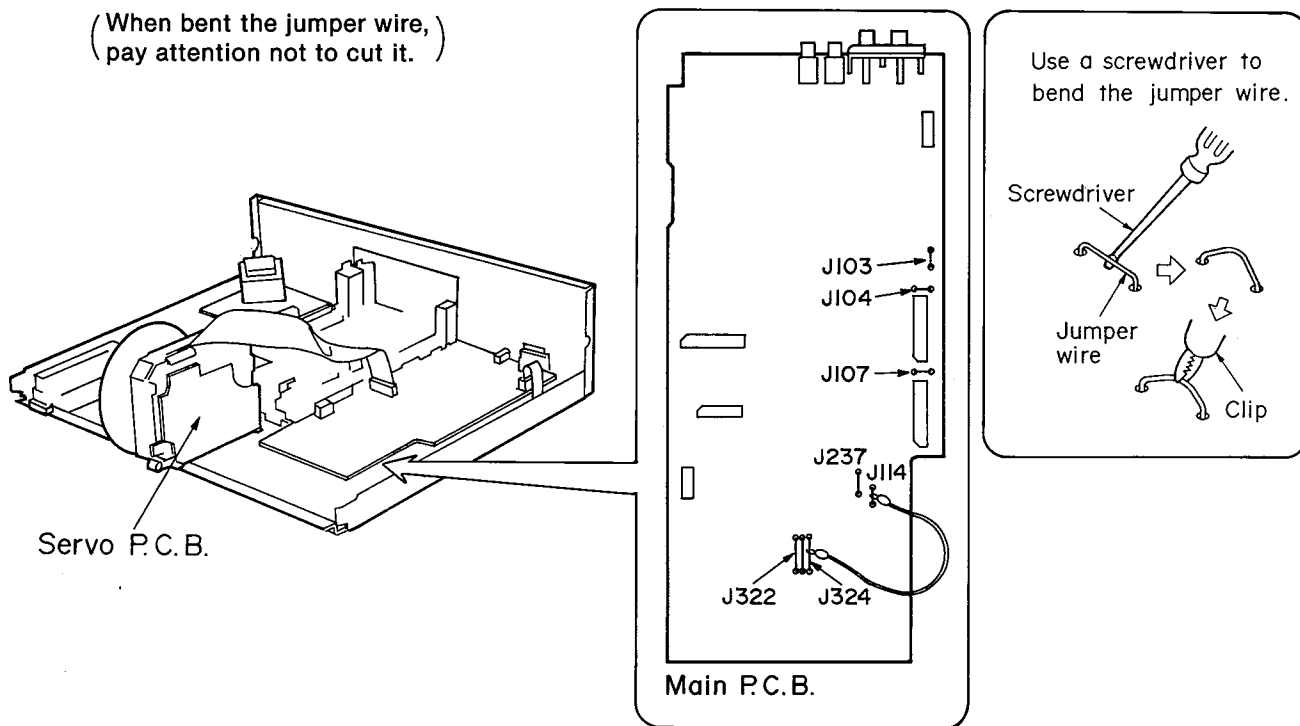

Fig. 1
4. Momentarily short the jumpers shown below as needed. (Fig. 1)